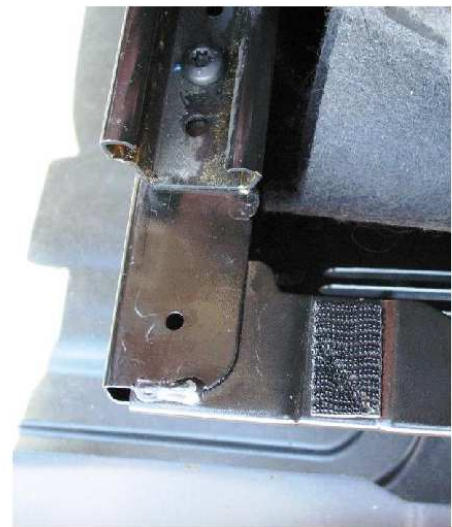

Figure 2
6. Slide the seat all the way to the front and enlarge the existing in-bound holes on the seat pedestal for both driver and passenger seat pedestal (hole behind the rear seat bolt). This could be achieved by drilling the existing holes with a 1/4" drill bit. See Figure 2.